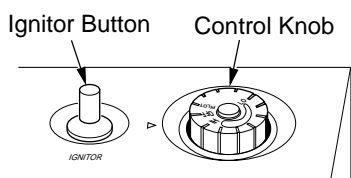

Figure 16 - Control Knob In The OFF Position
4. Wait five (5) minutes to clear out any gas. Then smell for gas, including near the floor. If you smell gas, **STOP!** Follow "B" in the safety information above. If you don't smell gas, go to the next step.
5. Turn control knob counterclockwise  to the PILOT position. Press in control knob for five (5) seconds (see Figure 16, page 10).